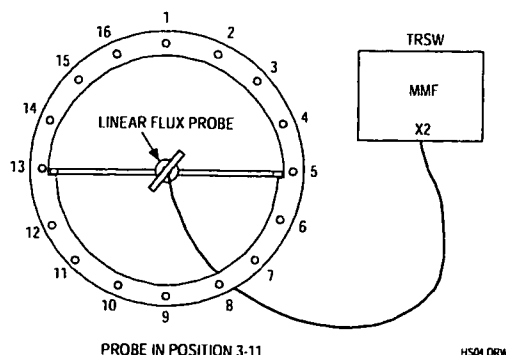

Figure 26 Flux probe position 3 - 11
3. Position the flux probe in position 3 - 11 (see Figure 26) and connect the right pick-up coil in stead of the left pick-up coil to the receive cable MGBX15.